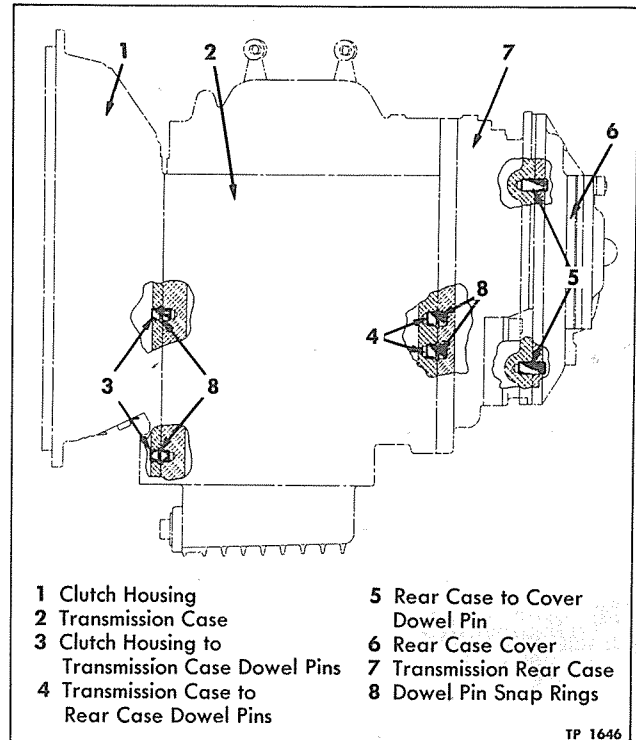

Figure 11—Transmission Case Dowel Pins
Clutch housing and transmission angle drive case are held in proper alignment with transmission main case by dowel pins (fig. 11). Two dowels (3) are used at front of main case and two (4) are used at rear of the main case. Angle drive case cover (6) which supports mainshaft rear bearing is also dowelled onto angle drive case.
3. Remove stud nuts and separate the two cases; then add counterbore in angle drive case to accommodate oversize dowel pin snap rings (8, fig. 11).